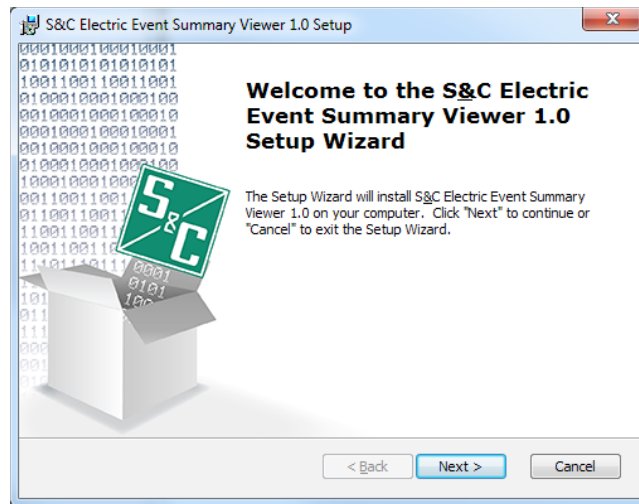

Figure 1. The Setup Wizard dialog box.
STEP 2. When the Setup Wizard dialog box appears, click on the **Next** button. See Figure 1.